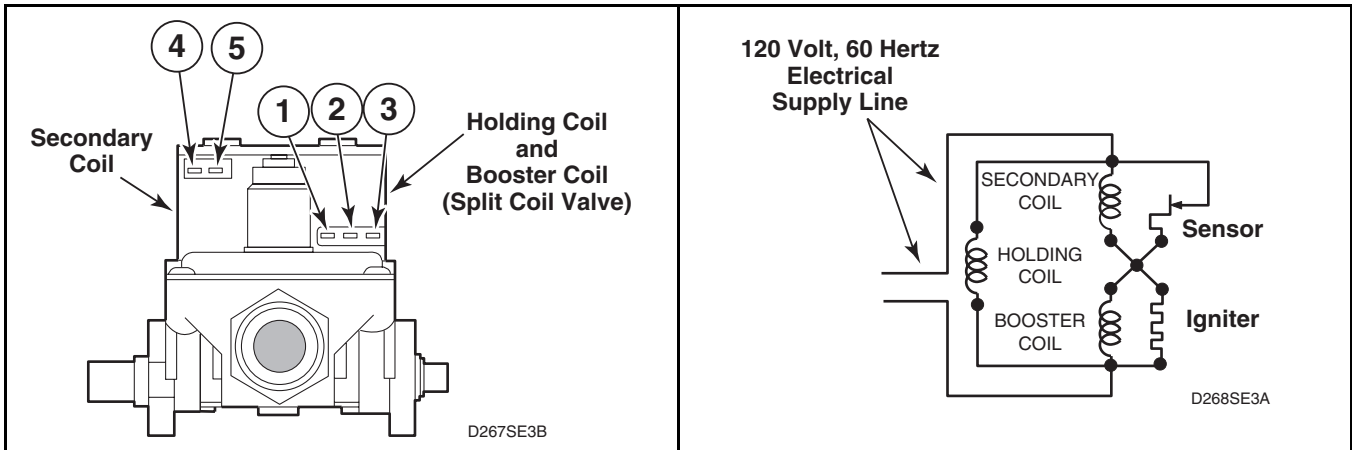

Figure 14
(Gas Models – Refer to *Figure 14*.)
- f. Set test meter to read AC voltage and apply meter probes into terminals on the dryer harness plug that would correspond to terminals "1" and "2" on the coil. Refer to *Figure 14*. Meter should register line voltage in all Fabric settings, except FLUFF which should read "zero" VAC.